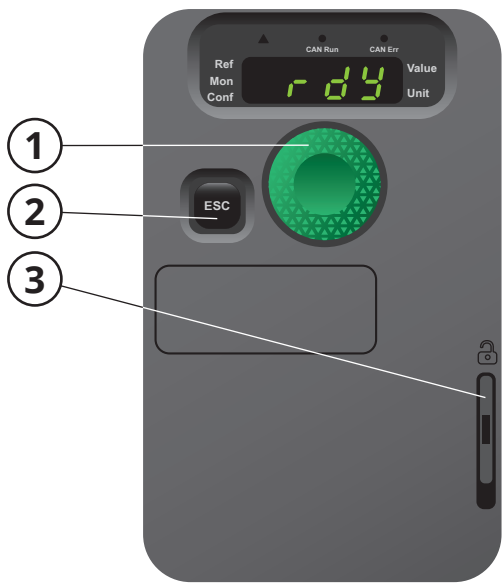

Fig. 1
All programming is executed on the keys at the front display **Fig. 1**. The jog dial (1) is used for navigating the menus and to select or confirm information. The ESC key (2) quits a menu/ parameter or clears and reverts the value. The front panel is opened via button (3).